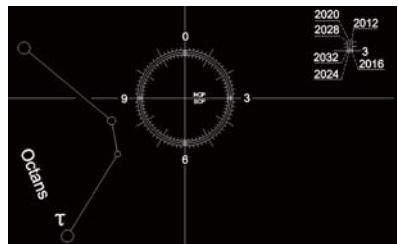

Fig 28
3. See through the eyepiece to make sure the pattern is oriented as shown in Fig 28. If the pattern is rotated, please refer to "**Appendix I: Calibrate the Polar Scope**"